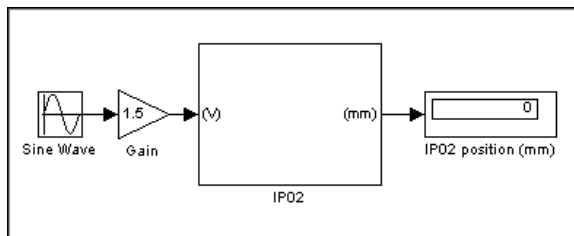

Figure 19 Model using the IP02 Subsystem
Step 3. Figure 19, below, provides an example of model using the IP02 block. Create and run in real-time the model represented in Figure 19. You should be able to replicate the observations previously made in Sections Applying a Voltage to the DC Motor and Measuring from the IP02 Cart Encoder.